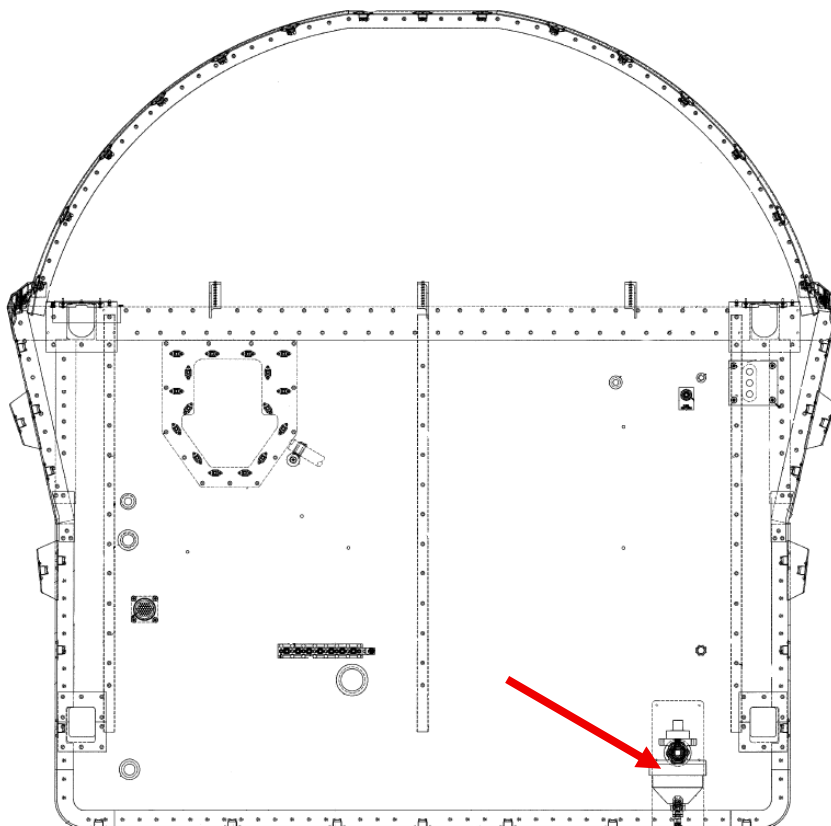

Figure 5
17. Install fuel filter assembly to aft firewall. (Reference Figure 5)